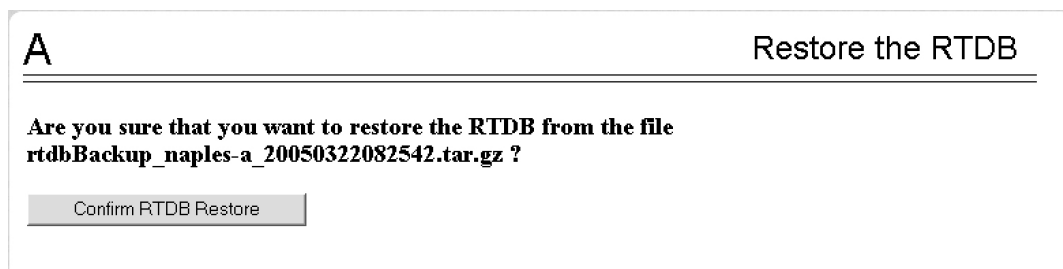

Figure 19: Restore the RTDB Confirm
- To confirm restoring a file, click **Confirm RTDB Restore** shown in the screen for RTDB in Figure 19: Restore the RTDB Confirm: